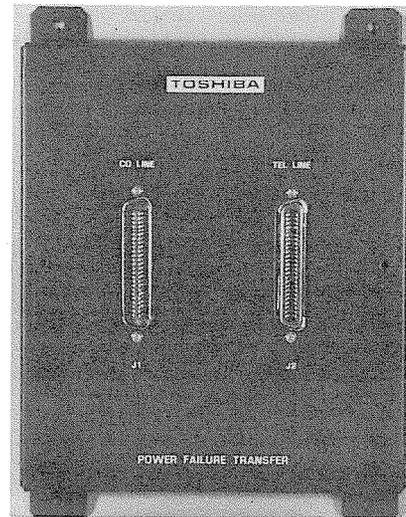
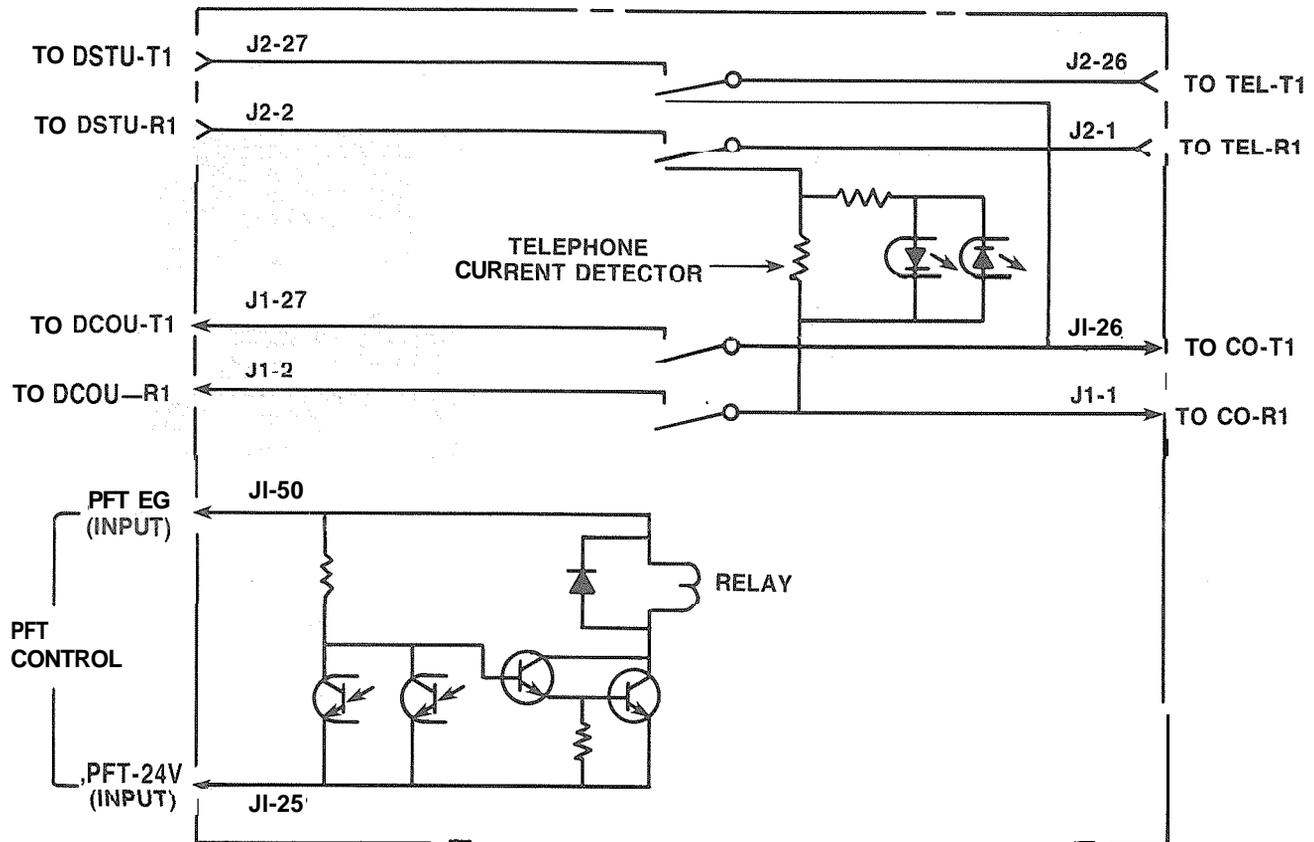

FIGURE 37—DPFT
FIGURE 38—DPFT FUNCTIONAL DIAGRAM
12.12 The DPFT is a self-contained module (Figure 37) that mounts externally to the DCEC, typically on the MDF. Connections to the trunks, stations and DCEC are made via two 50-pin amphenol-type connectors (J1 and J2). A functional diagram is shown in Figure 38.